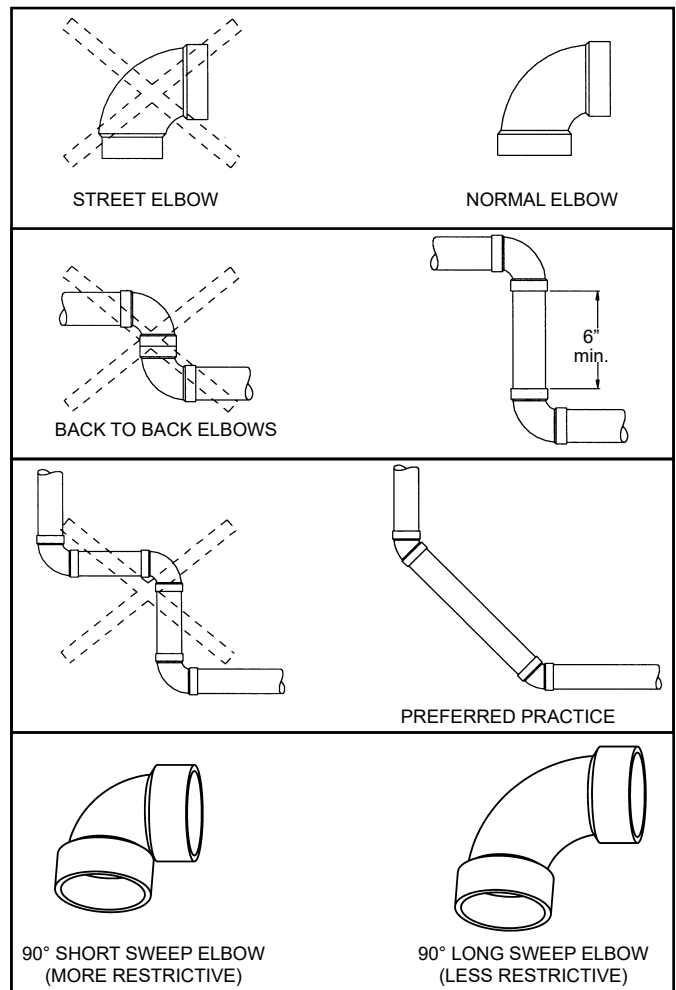

Figure 29.
Note: The information provided in Figure 29 is intended as a guideline for good vent installation practices only and is not intended to restrict venting options beyond those restrictions established by the current edition of the “**National Fuel Gas Code**”, **ANSI Z223.1/NFPA 54** or any applicable local and state codes.
- Avoid using 90° elbows “back to back” and do not use street elbows. Maintain a minimum 6” straight section between elbows. Closely coupled and short radius elbows reduce the venting capacity. Figure 29 shows examples of vent pipe connections.